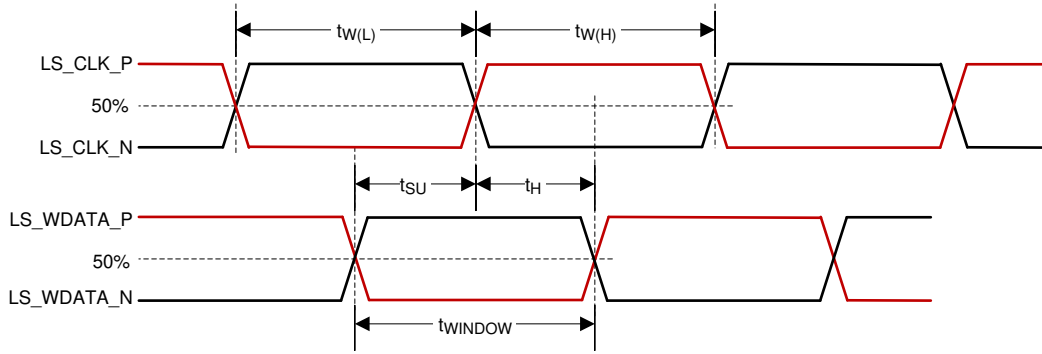

图 5-4. LSIF Timing Requirements
- (3) See 图 5-4 for pulse duration high and low time for LSIF.
- (4) See 图 5-4 for setup and hold time for LSIF.